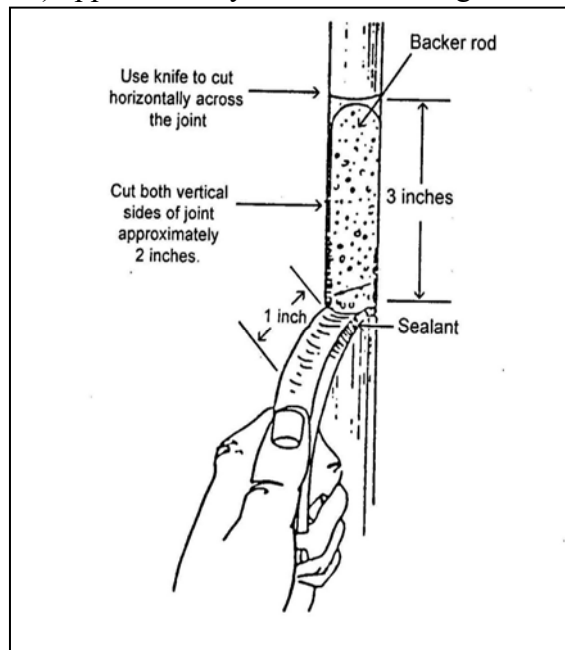

Figure 1
- 2) Make two vertical cuts (from the horizontal cut) approximately three inches long on each side of the joint. (See Figure 1)
- 3) Pry out flap created from cuts as shown in Figure 1.